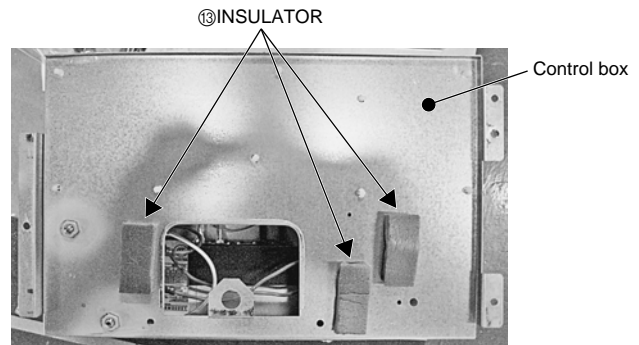

Fig. 7
(9) Install ⑬INSULATORS over the exposed nail tips on the back of the control box. (Fig. 7)